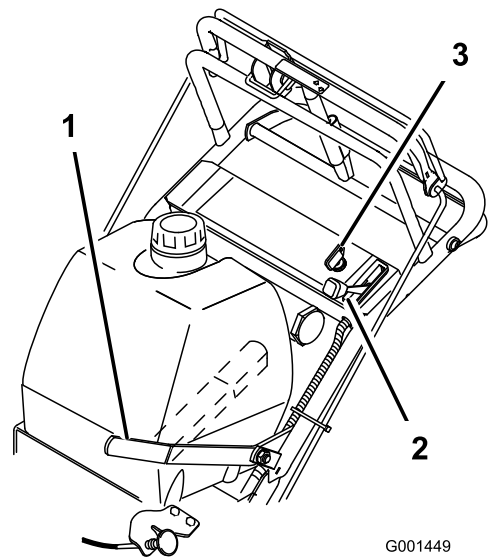

Figure 7
4. Turn the key to the RUN position (Figure 7).
7. Engage the choke if the engine is cold (Figure 7).
1. Move the throttle lever to the SLOW position (Figure 7).
3. Turn the key to the OFF position (Figure 7).